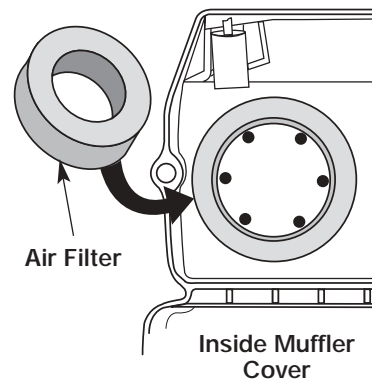

Fig. 18
2. Turn cover over and look inside to locate the air filter. Remove the air filter from inside the air filter/muffler cover (Fig. 18).
6. Replace the air filter inside the air filter/muffler cover (Fig. 18).